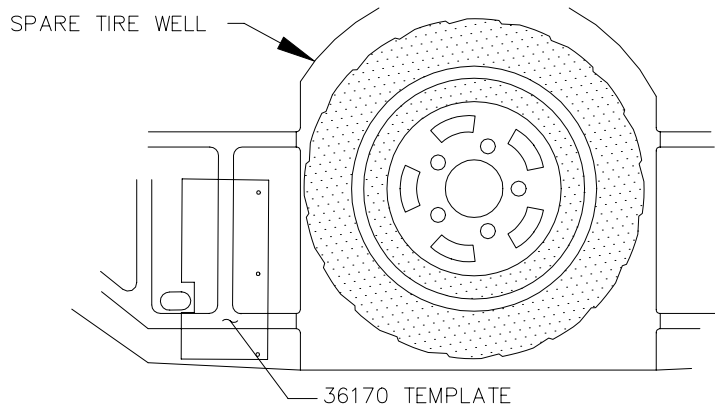

FIGURE 1. INSIDE TRUNK DRIVER'S SIDE
- * PLACE TEMPLATE INSIDE TRUNK ON DRIVER'S SIDE OF SPARE TIRE WELL, SEE FIG 1.
- CENTER PUNCH THREE (3) PLACES AS SPECIFIED ON "36170 TEMPLATE." REMOVE TEMPLATE. DRILL THREE (3) 1/8" HOLES DOWN THROUGH TRUNK PAN AT CENTER PUNCHED LOCATIONS.